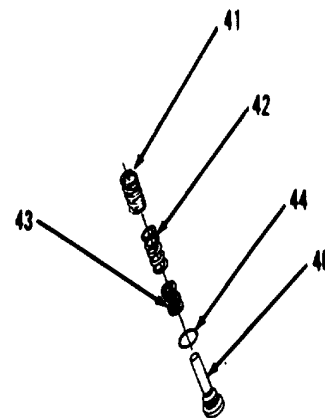

Figure 10-86.
25. Remove spring (41), shim(s) (42), spacers (43) and preformed packing (44, Figure 10-86). Discard preformed packing (44). Tie shim(s) (42).